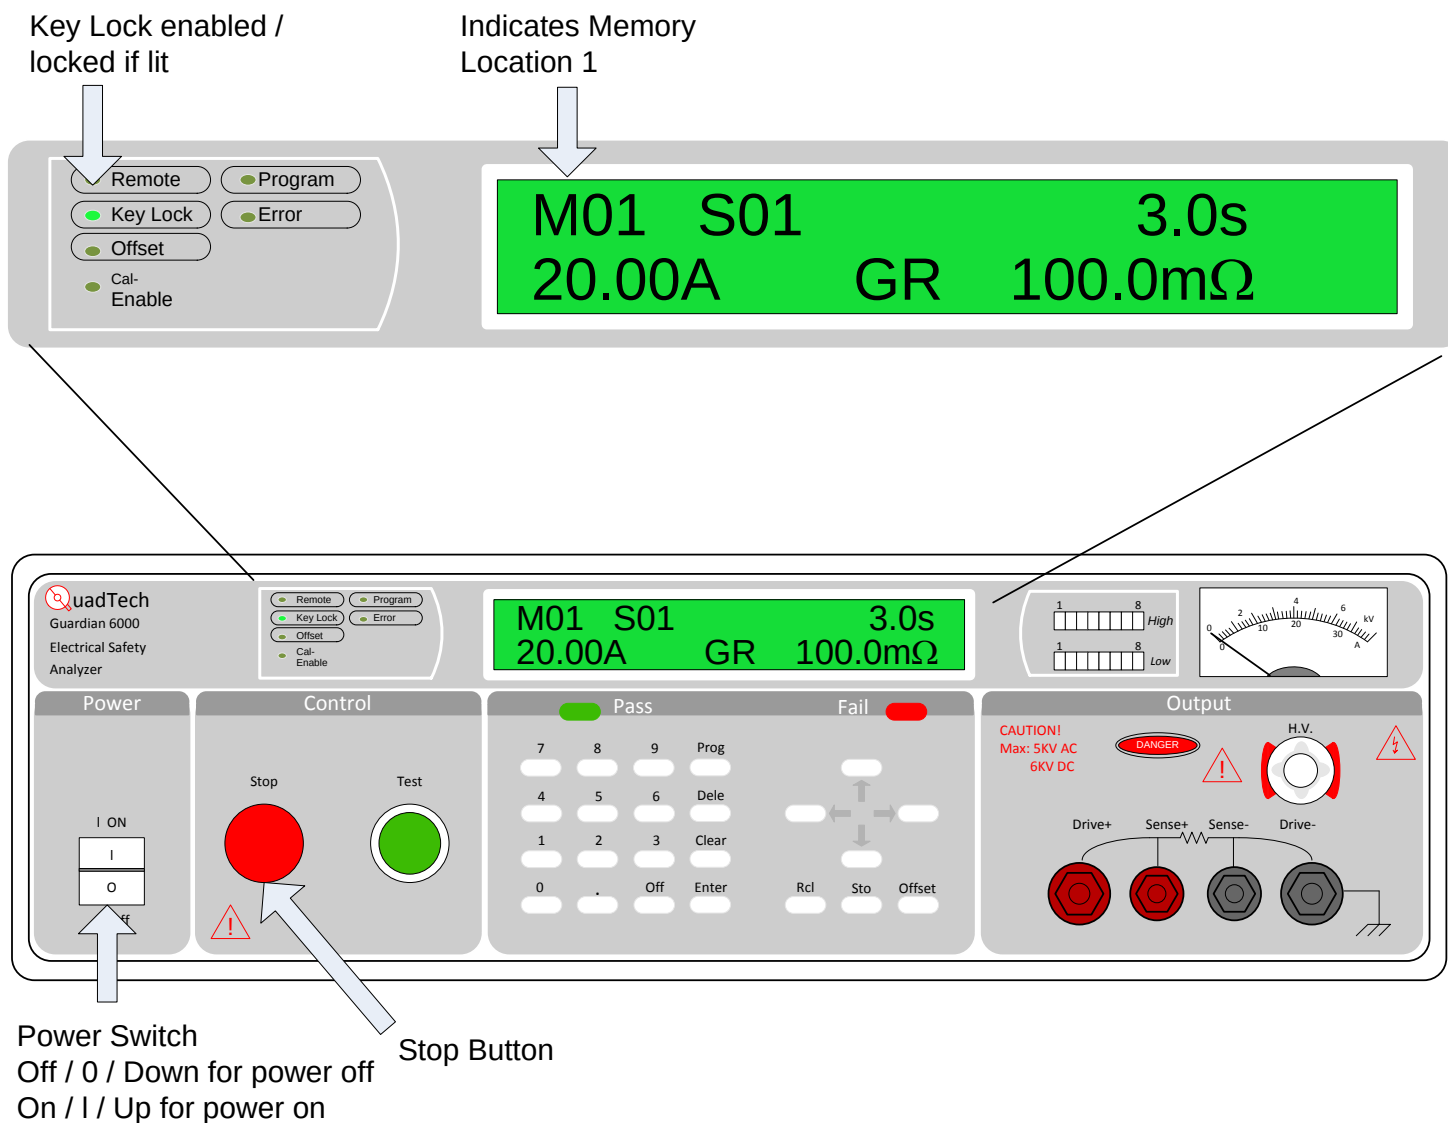

Figure 2: QuadTech Guardian 6000 Display
- 1.7. Power up the analyzer by putting the power switch on the **On** position. The unit will power on. Verify that the unit is ready to test, by verifying that the Key Lock indicator is illuminated and M01 displayed (reference Figure 2). If not, do not use the analyzer, label the analyzer accordingly and notify Test Engineering immediately.